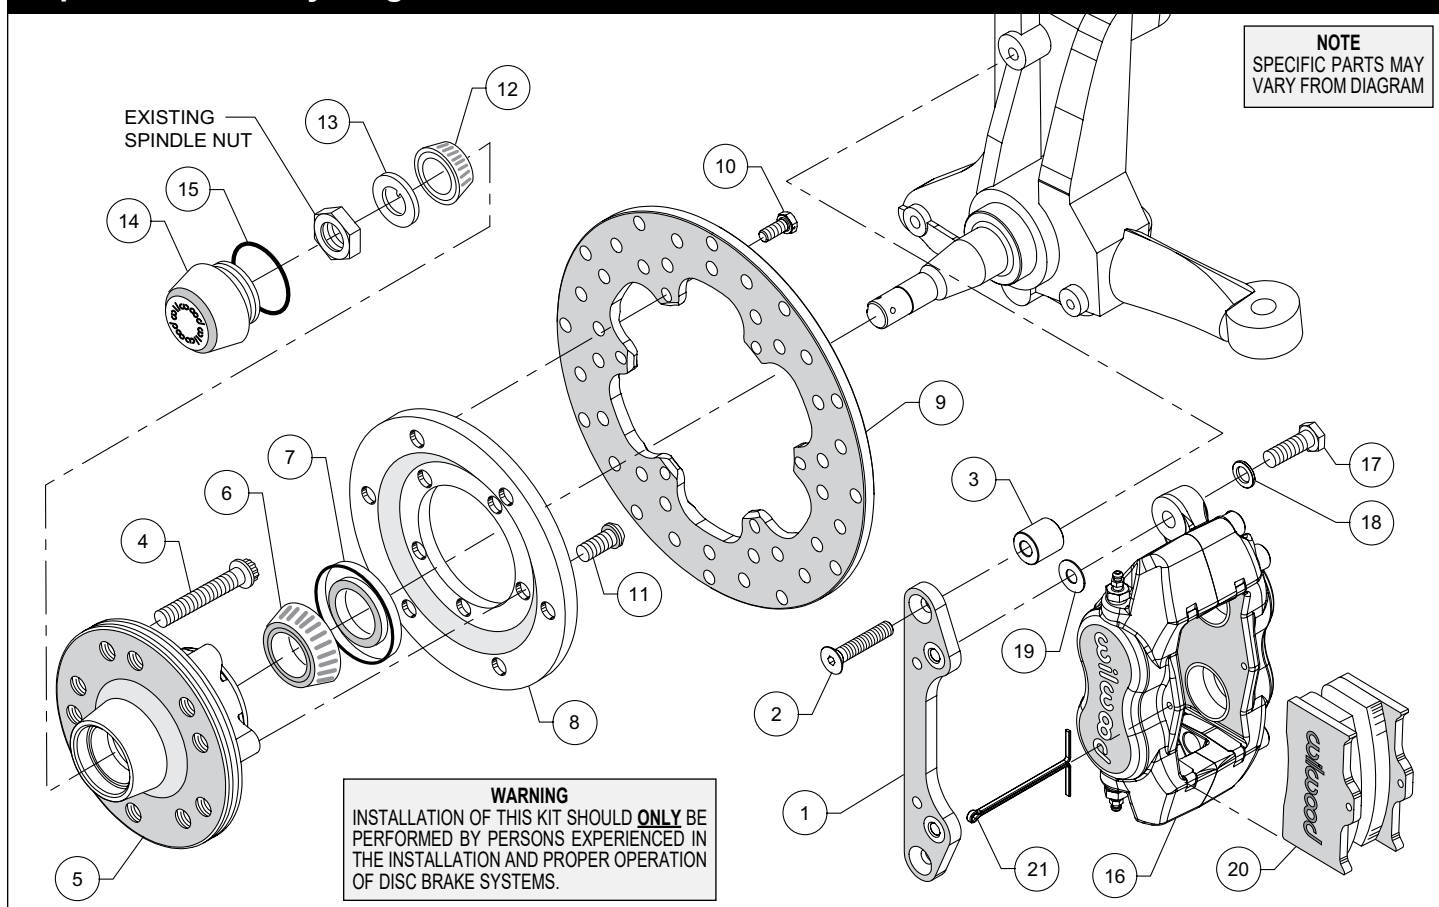
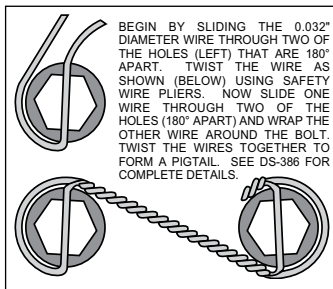
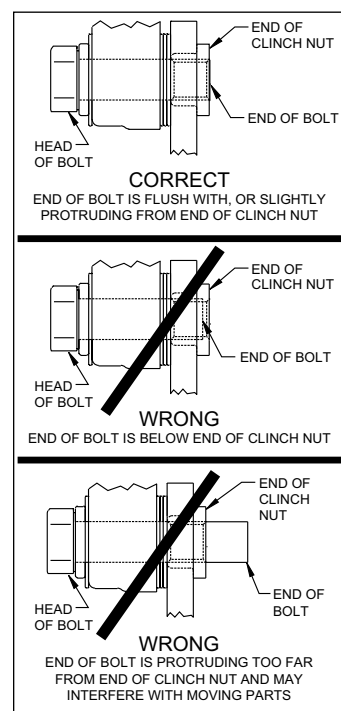

Figure 2. Typical Installation Configuration
Figure 4. Safety Wire Diagram
Figure 5. Clinch Nut Engagement Diagram
NOTE: Numbers in parenthesis refer to the parts list and Figure 2 on the preceding pages.
CAUTION: All mounting bolts must fully engage clinch nuts. Be sure to check that all bolts are either flush or protruding through flanged side of clinch nut after shimming, Figure 5.
- Orient the caliper mounting bracket (1) as shown in Figure 2 and Photo 1. Attach using bolts (2) and spacers (3), Figure 2. Temporarily tighten the mounting bolts. Ensure that the flanged heads of the clinch nuts in the bracket are facing outboard, Photo 1. **NOTE:** The bracket must fit squarely against the mounting points on the spindle. Inspect for interference from casting
- Install wheel studs (4) into the hub (5), Photo 2. Torque to 77 ft-lb. **NOTE:** *There are two five lug patterns in the hub (5 x 4.50 and 5 x 4.75).* Ensure the correct hub stud pattern is being used to fit the wheel application.
- Pack the large inner bearing cone (6) with high temperature disc brake bearing grease (available from your local auto parts store) and install into the backside of the hub (5), Photo 3.
- Install the grease seal (7) by pressing into the backside of the hub (5), flush with the end of the hub, Photo 3.
- Orient the rotor (9) and the rotor adapter (8) as shown in Figure 2 and Photo 4. Attach the rotor to the adapter using bolts (10). Apply red *Loctite*® 271 to the bolt threads and torque to 25 ft-lb using a criss-cross pattern. Safety wire bolts using standard 0.032 inch diameter stainless steel safety wire as shown in Figure 4. Refer to Wilwood's data sheet DS-386 (available at www.wilwood.com/Pdf/DataSheets/ds386.pdf) for complete safety wire installation instructions.
- Mount the adapter/rotor assembly (8 and 9) to the hub (5) using bolts (11), as shown in Figure 2 and Photo 5. Apply red *Loctite*® 271 to the bolt threads and torque to 45 ft-lb using a criss-cross pattern.
- Pack the small outer bearing cone (12) with high temperature disc brake bearing grease and install into hub (5). Slide the hub/rotor assembly onto the spindle. Secure using spindle washer (13) and OEM spindle nut, Photo 6. Adjust bearings per OEM specifications. Install saved OEM nut lock (if any) and a new cotter pin (not included).
- Screw dust cap (14) into hub (5), Photo 7. Friction created by the o-ring (15) on the dust cap keeps it from unscrewing. **NOTE:** *The O.D. of the existing OEM spindle washer may be larger than the I.D. of the dust cap not allowing it to seat against the hub face. Therefore, use the spindle washer (13) supplied with the kit instead of the OEM washer.*
- NOTE:** *Please reference the caution statement at the beginning of the assembly instructions.* Mount the caliper (16) onto the caliper mounting bracket (1) using bolts (17) and washers (18), as shown in Figure 2. Initially place one .035" thick shim (19) on each bolt between the caliper and the bracket, Photo 8. Temporarily tighten the mounting bolts and view the rotor (9) through the top opening of the caliper. The rotor should be centered in the caliper, Photo 9. If not, adjust by adding or subtracting shims (19) between the bracket and the caliper. Always use the same amount of shims on each of the two mounting bolts. **NOTE:** *The end of each bolt must be flush with or slightly protruding from the head of the clinch nut, as shown in Figure 5.* If necessary place spare shims (19) between washer (18) and caliper mounting ear to achieve the proper clinch nut engagement. Once the caliper alignment and clinch nut engagement are correct, remove the
bolts one at a time, apply red *Loctite*® 271 to bolt threads, and torque to 40 ft-lb. For an added measure of security, the bolts may be safety wired using standard 0.032 inch diameter stainless steel safety wire as shown in Figure 4. Refer to Wilwood's data sheet DS-386 (available at www.wilwood.com/Pdf/DataSheets/ds386.pdf) for complete safety wire installation instructions.